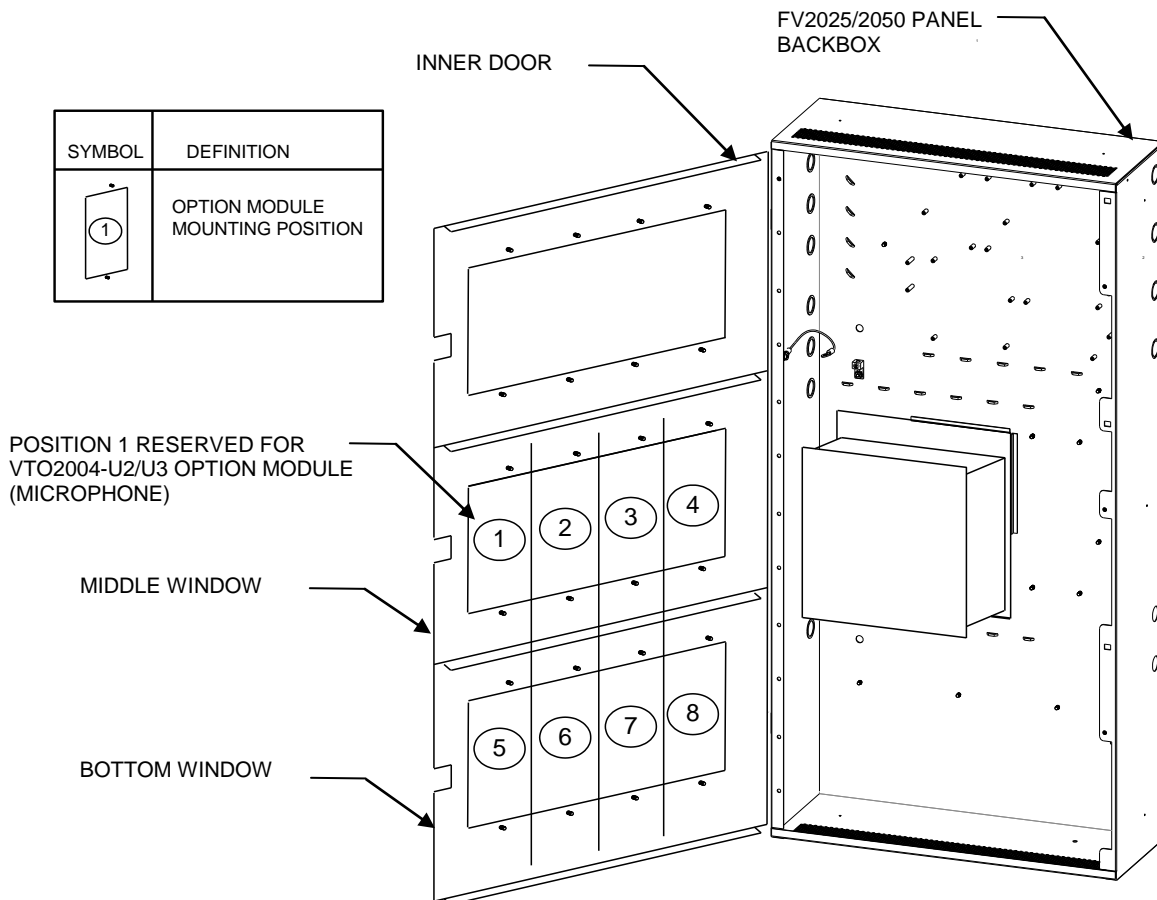

Figure 3
- a. **FV2025/2050 Fire Voice Control Panel.** Please see Figure 3. Consult the site-specific shop drawings to determine how many VTO2001-U2/3 Option Module (24 Switches) modules to mount in the middle and bottom windows of the FV2025/2050 Fire Voice Control Panel.